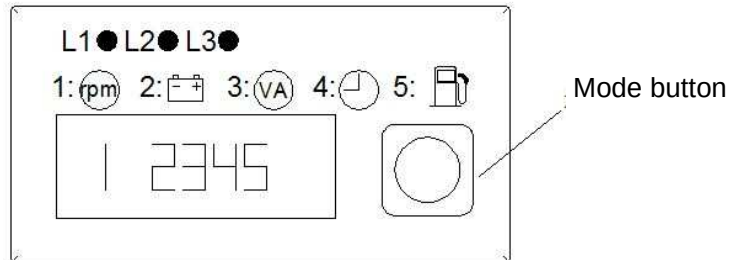

Figure 21
(3) Figure 21 is the display of generator rotation speed. When mode button selects mode 1, the displayer shows generator rotation speed.